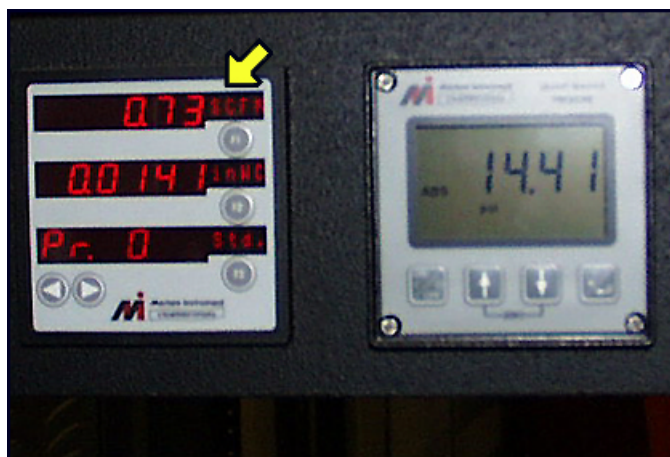

Figure 8
- 112 Verify that a flow rate value appears on the FI display of the LFE Verification instrument. See the arrow in Figure 8. If a flow rate is not indicated, verify that all connections and power requirements are correct. If they are, contact a senior technician for assistance.